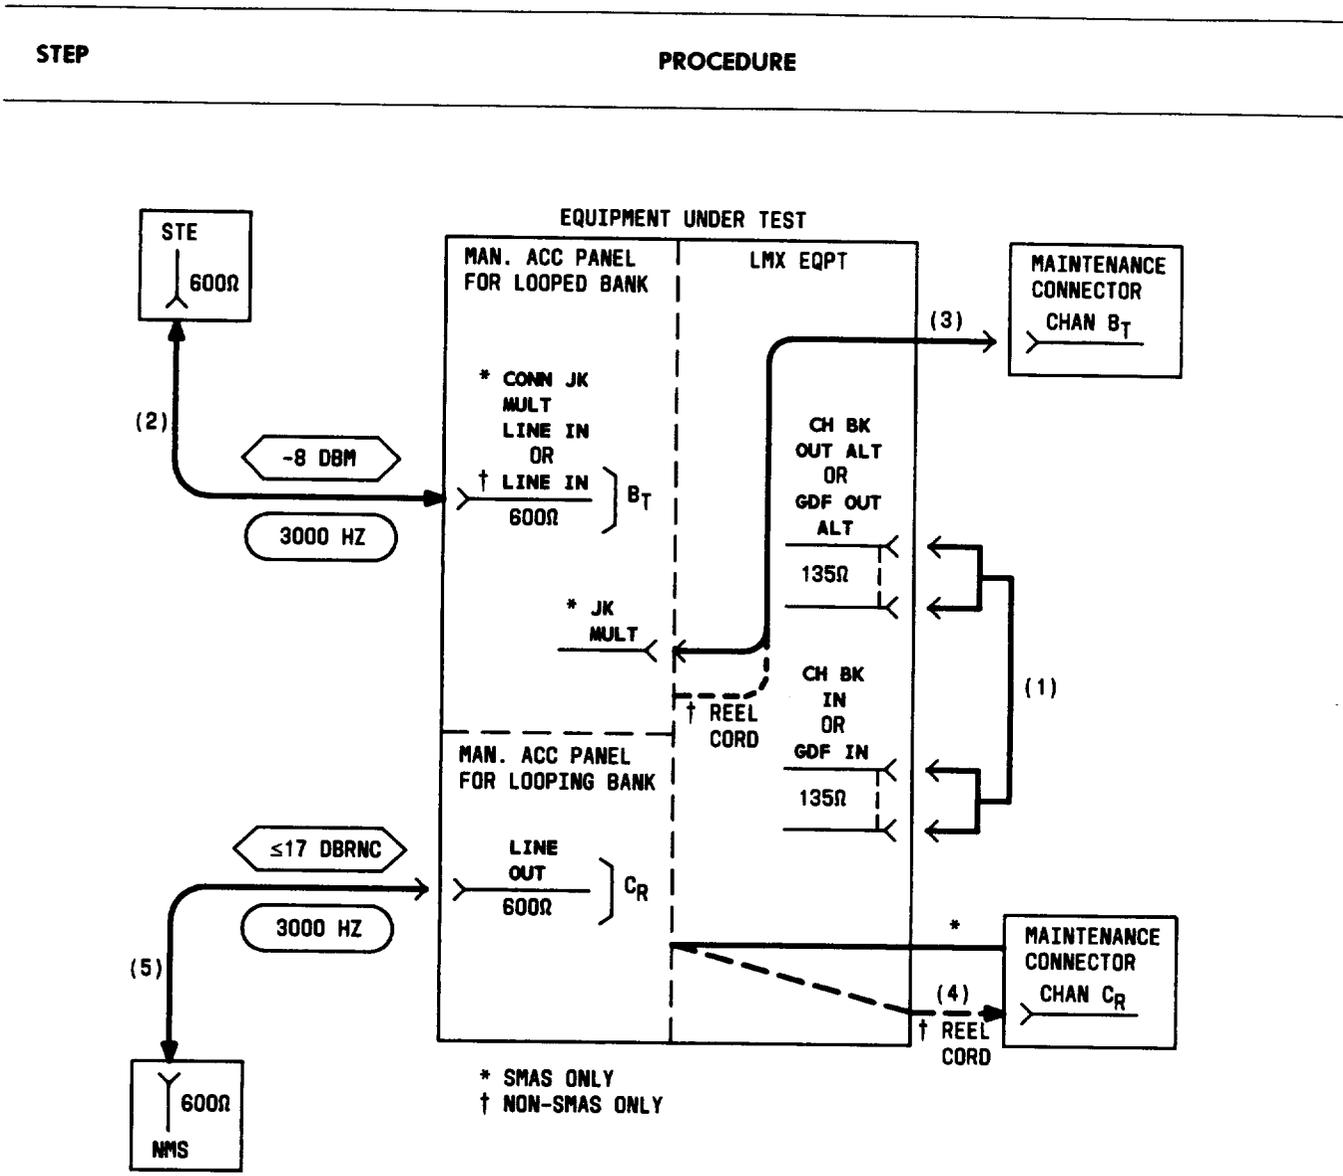

Fig. 24—Patching Diagram—Crosstalk Test—Unequal-Level Looping—Upper Adjacent Channel (3000 Hz)
24a*	Connect the JK MULT connector (on the 22AR or AT MAP) to the CHAN BANK connector (on the maintenance connector) for the looped channel designated Br for Test A in Table K [patch (3), Fig. 24].
24b†	On the adjacent non-SMAS J98626() frame, connect the retractable cord (on the 22AU MAP) to the CHAN BANK connector (on the maintenance connector on the frame under test) for the looped channel designated Br for Test A in Table K [patch (3), Fig. 24].
25b†	Connect the retractable cord (on the 22AU MAP) to the CHAN BANK connector for the looping -channel position designated Cr for Test A in Table K [patch (4), Fig. 24].
27*	Connect the NMS to the LINE OUT jack [patch (5), Fig. 24].
- 31 Remove patch (3), Fig. 24 [and patch (4), if used] from the maintenance connector(s).